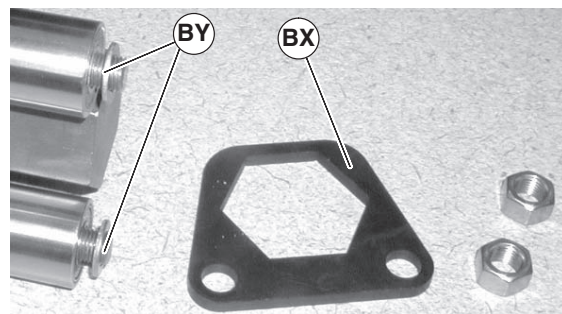

Figure 60
6. Remove support plates (Figure 60, item BX) and washers (BY).